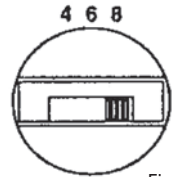

Fig. 1
1. On the rear side of the tachometer (#1), locate the cylinder select switch and slide it to 4-, 6- or 8-cylinder to match your vehicle (Fig. 1).